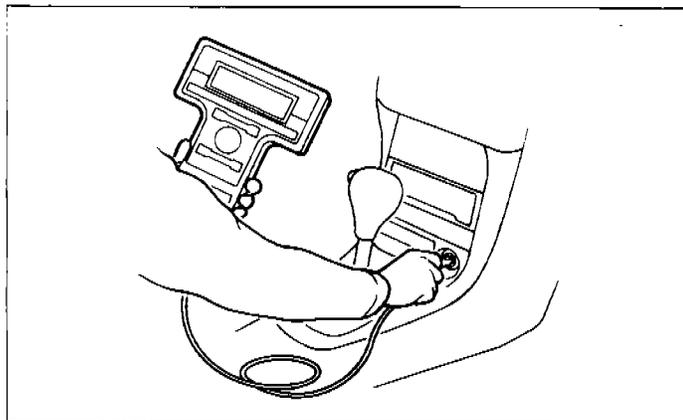

Fig. 2-7
- b: Plug the NGS tester power cable directly into the cigarette lighter and turn the ignition key to the "ON" position (Fig. 2-7).